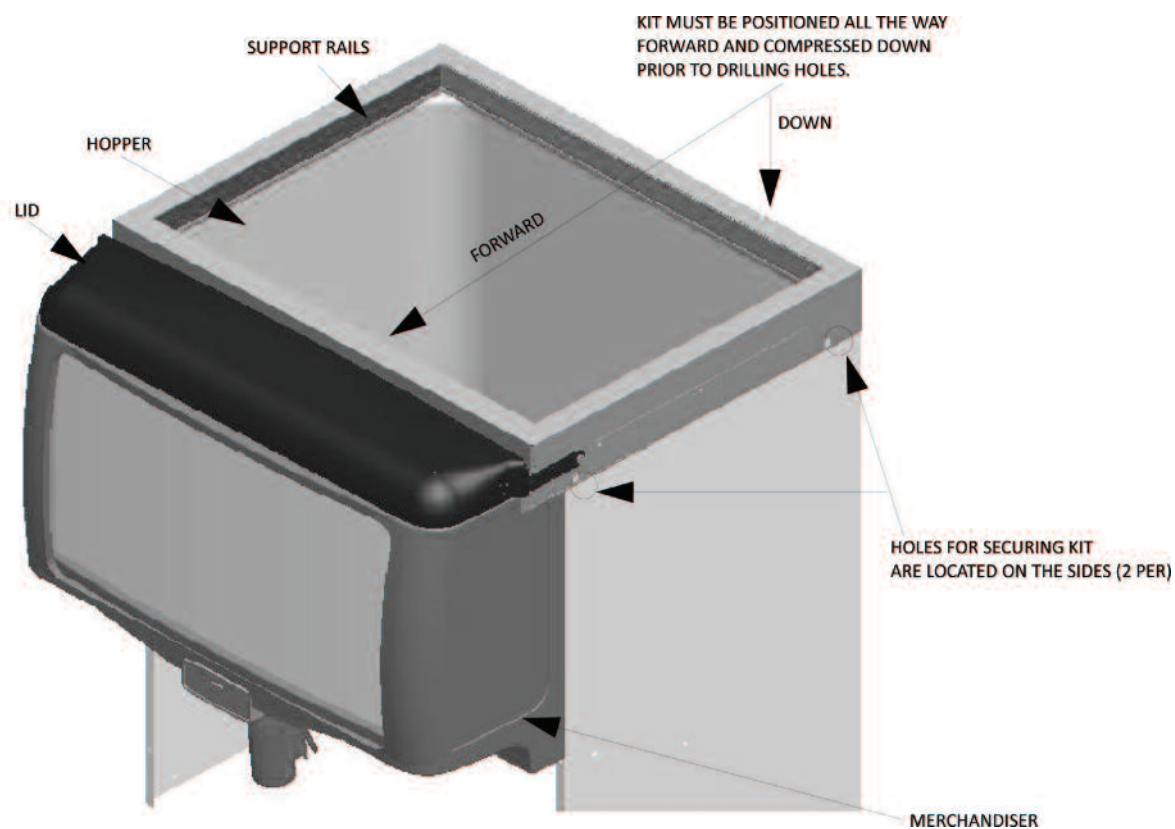

Figure 2
9. Insert a nylon washer (Item 12) into the weld nut and assemble the cover assembly (620057410/620057232) and put another washer (Item 12) and then fasten by V-Screw (Item 14) and screw cover (Item 13) (refer to Figure 2).